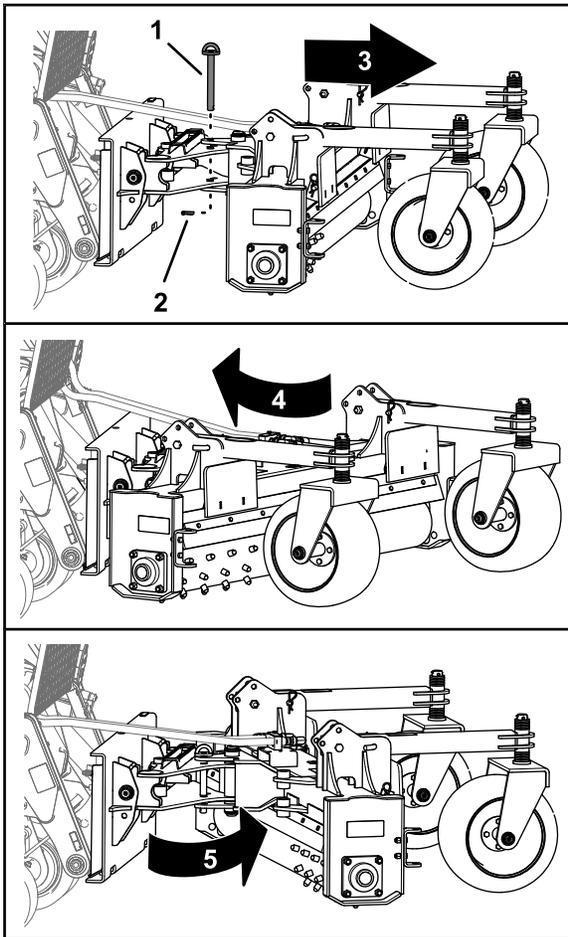

Figure 7
- Rotate the power rake to the right, left, or straight ahead depending on the desired discharge direction (Figure 7).
- Remove the lynch pin and angle pin (Figure 7).